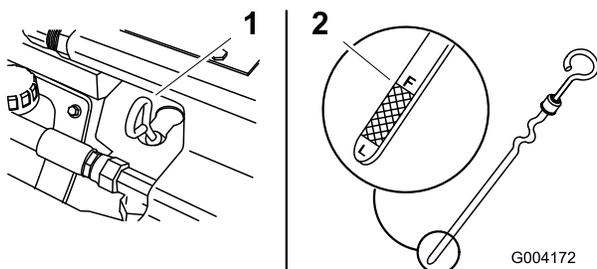

Figure 10
4. Clean around the oil dipstick (Figure 10).
5. Pull out the dipstick and wipe the metal end clean (Figure 10).
6. Slide the dipstick fully into the dipstick tube (Figure 10).